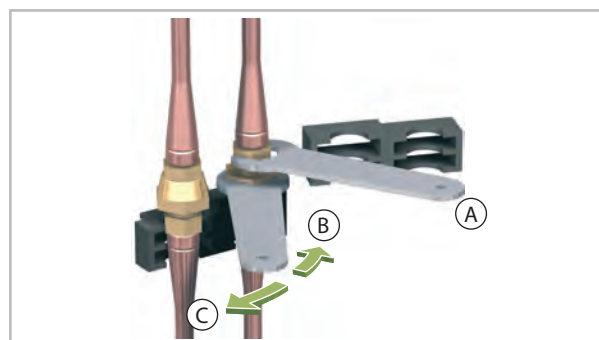

Fig. 15: Unscrew the right-hand union nut
- 11. ➤ Unscrew the right-hand union nut with the size 24 open-ended spanner provided. In doing so, use the second size 21 open-ended spanner to hold the upper coupling section still (Fig. 15).